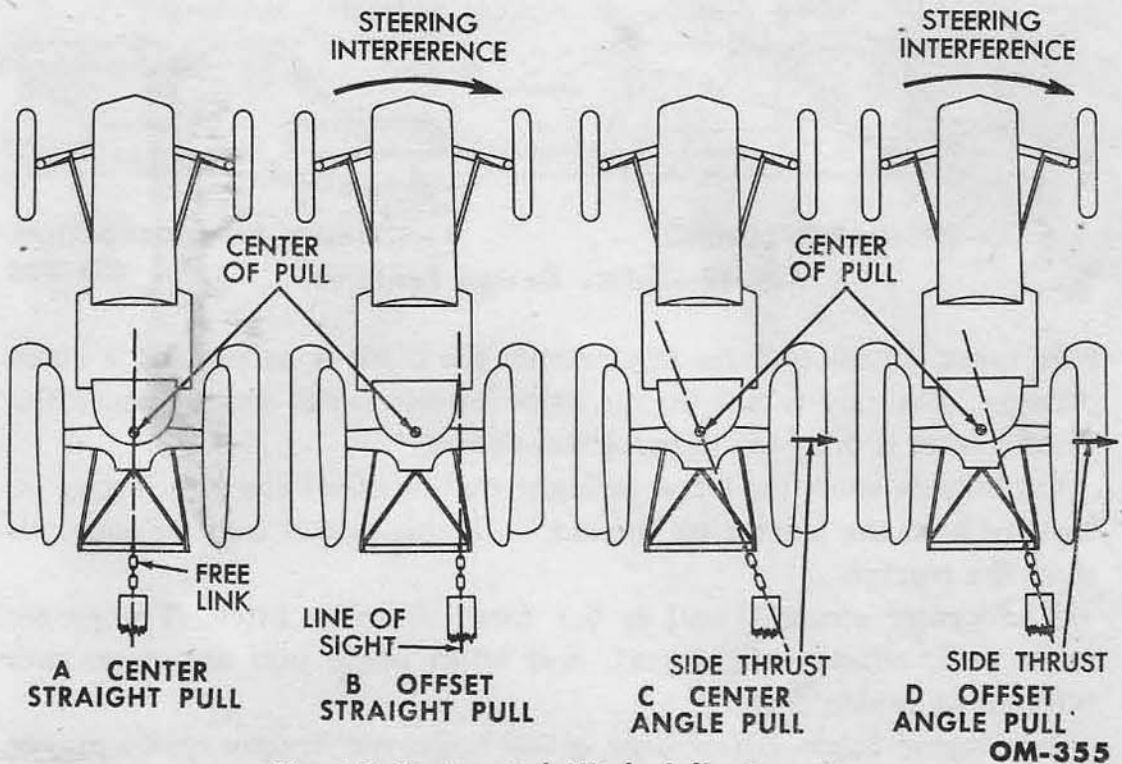

Fig. 16 Horizontal Hitch Adjustments
b. Horizontal Hitch Adjustment. The field method of determining the correct horizontal drawbar hitch is by inserting a short chain or clevis as a free link between the implement and tractor hitch point (fig. 16). When under load, the free link will take a line connecting the hitch point and the center of load (fig. 16). The center of load is the balance point of the load forces. By sighting down the free link (clevis or chain), it is possible to determine the position of this line with reference to the center of pull. Study fig. 16 A, B, C, and D to determine the type of hitch and operating characteristics.